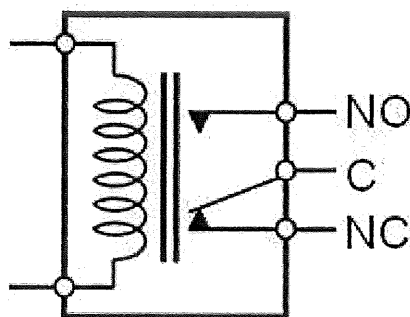

Figure 2
b) Figure 2 shows the symbol of a relay. Describe the operation of this relay.